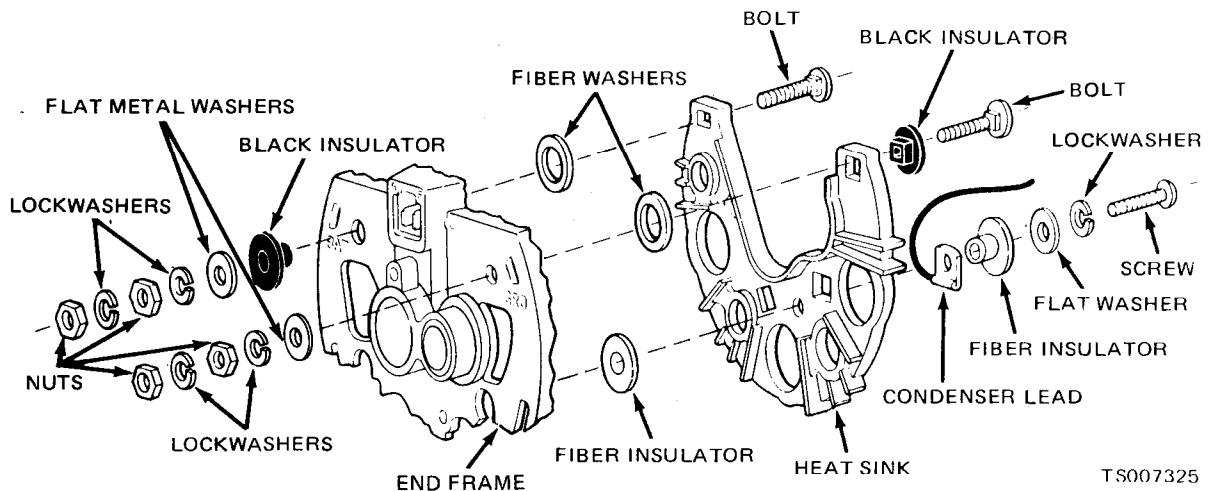

Figure 3-4. Heat Sink.
k. Heat Sink Replacement. The heat sink may be replaced by removing the "BAT" and "GRD" terminals from the end frame, and the screw attaching the condenser lead to the heat sink. During reassembly, note carefully the proper stack-up of parts as shown in figure 3-4.